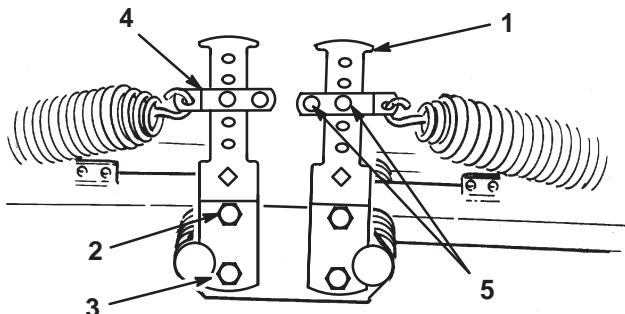

Figure 13
- Secure the other end of the spring to the appropriate hole (see below) on the front and rear counterbalance arms (Fig. 13 & 14) with the spring shackle, clevis pin, and cotter pin.
- Secure the bottom of the counterbalance arm to the frame with the capscrew and nut previously removed. Tighten the top capscrew (Fig. 13).